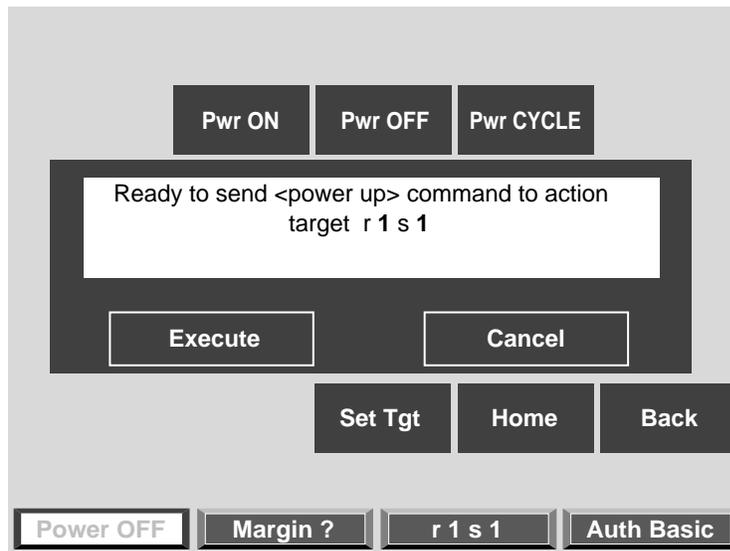

Figure 2-23 Command Confirmation Window
6. Selecting **Pwr Off** brings up a Command Confirmation window as shown in Figure 2-23. This window shows the target items (the bricks to be powered off, for example) and command (should be “powered off,” in this case) that will be executed on those target items. Select **Execute** from this window. The Command Confirmation window will stay open until the command is executed successfully.